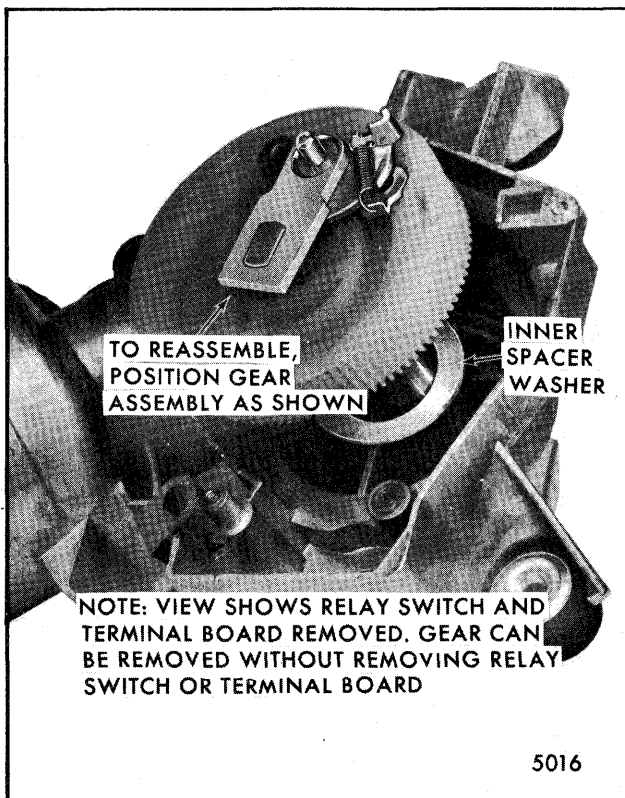

Fig. 2-43-Removing Gear
2. Slide gear assembly out of housing (Fig. 2-43).
5. Assemble inner spacer washer over the gear tube and reassemble gear mechanism in gearbox (Fig. 2-43).